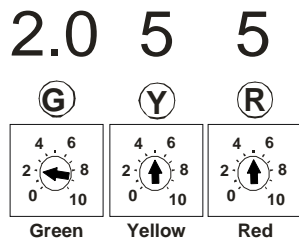
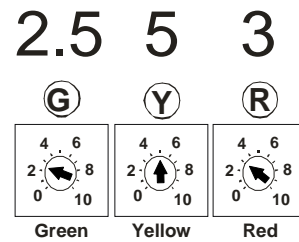

FIGURE 5
FIGURE 6
7. Remove the door from the Fi2000 module to expose the LED's. **NOTE:** The Fi2000 base pot settings come preset from the factory for the Stryker with full exhaust, if a slip-on is used change settings, to those in Figure 6. Verify the wire connections by, (1), turning the ignition on while watching the 3 LED's. They will all light up for a few seconds, and then go off. This is correct. If there are no lights visible, make sure the side stand is up, bike is in neutral, clutch is in and handlebar engine switch is set to run. If there are still no lights visible, re-check that all connectors are fully engaged and the ground wire is connected correctly. (2), after achieving a steady light from all three LED's, start the motorcycle; the green light should now be the only LED on. If all three LED's are still on after start up, verify the injector connectors are correctly attached. Reattach the access door when finished.
The Fi2000R has the ability to efficiently tune the EFI system on your motorcycle for slip-on or full exhaust systems. Your Fi2000 fuel injection module has been tested and preset for best function and rideability on a motorcycle with aftermarket air cleaner and performance full exhaust, settings shown in Figure 5, if your motorcycle is using a n aftermarket performance slip-on exhaust, please change the settings to those in Figure 6. Both dyno testing and on-road exhaust gas analysis have been used to develop the best base settings for drivability and power. Not all slip-on mufflers flow exactly the same. Some are made with street baffles, other with race or competition baffles. Full exhaust systems offer even greater variation in construction, features and performance. The Fi2000R has the ability to tune the EFI system on your motorcycle to any of these exhausts by applying a logical and systematic approach to altering the base settings supplied with your Fi2000R. These suggestions should be followed step by step and help you achieve success, should the motorcycle not run optimum with the settings provided.